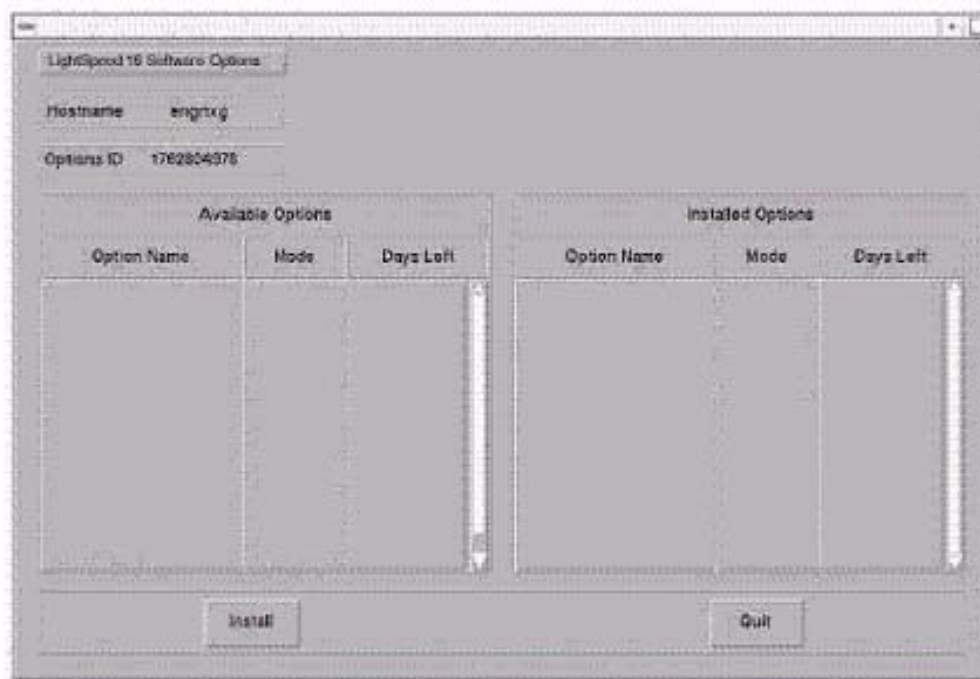

Figure 5-12 Install Options screen
- 5.) Select INSTALL OPTIONS. A blank Software Options screen (Figure 5-12) appears.